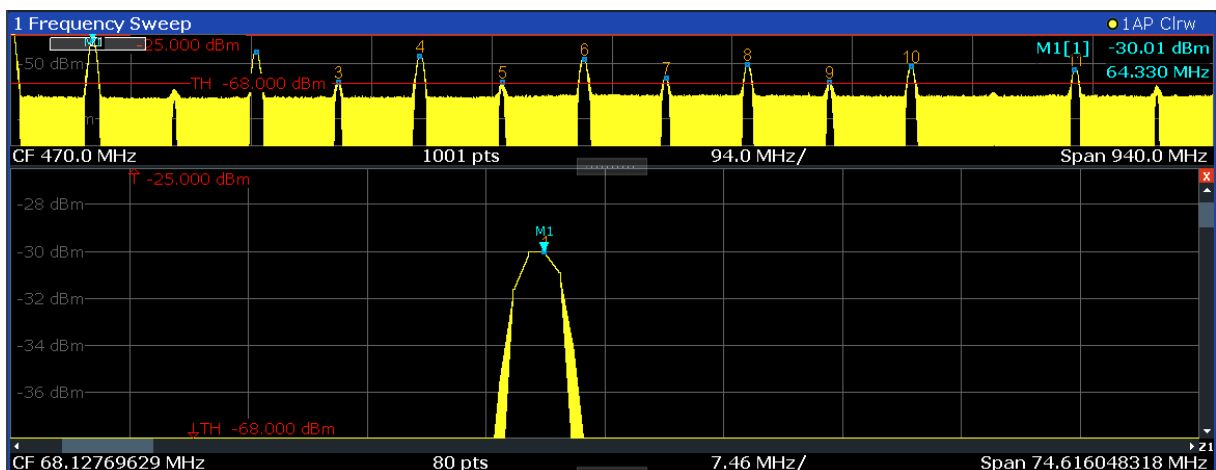

Figure 6-13: Zoomed display around a peak
3. In Figure 6-13, the enlarged peak is represented by a very thick trace. This is due to the insufficient number of sweep points. The missing sweep points for the zoomed display are interpolated, which provides poor results. To optimize the results, we will increase the number of sweep points from the default 1001 to 32001.